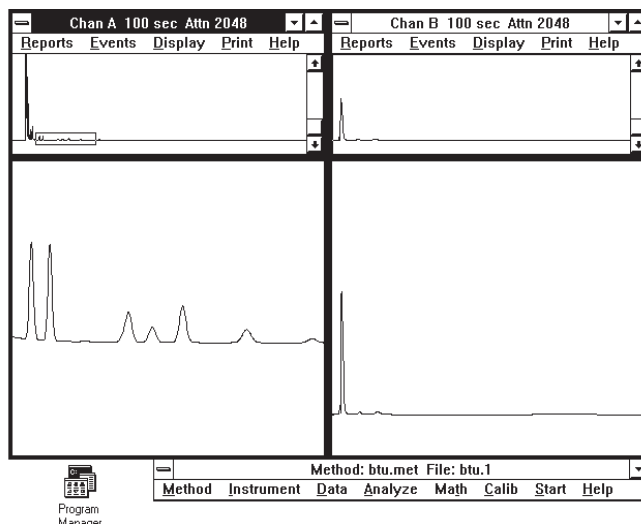

Figure 9 Zoom box display
3. Release the mouse button. EZChrom 200/400 will now draw the area inside the zoom box so that it fills the lower screen (See Figure 9).